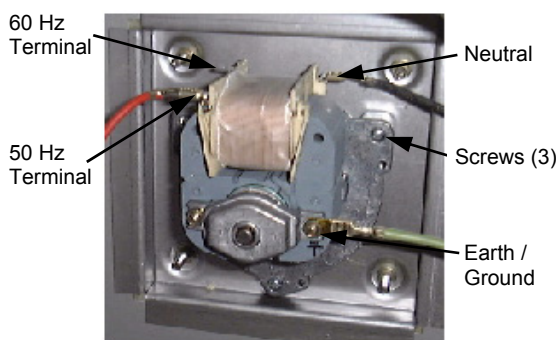

Figure 6.3.20
- 5) Ensure wire connections are correct to the voltage supply—60 Hz / 50 Hz (fig 6.3.20)